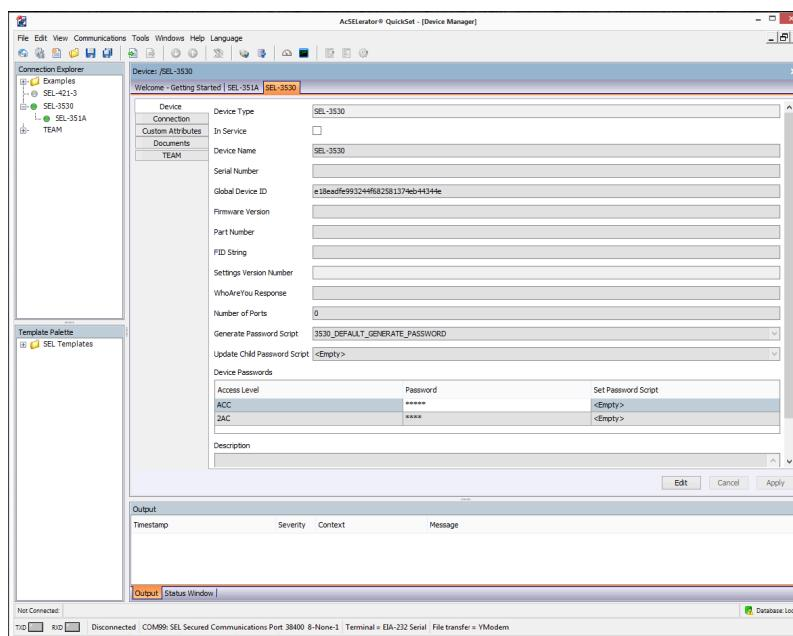

Figure 4.18 The Workspace Shows the Correct Connection Parameters for the SEL-351A Child Device
- Step 8. Select and drag an SEL-351A from the **Template Palette** into the **Connection Explorer**. Place the SEL-351A under the RTAC as shown in *Figure 4.18*.